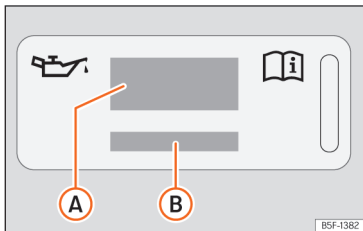

Fig. 231 In the engine compartment: engine oil label
Key to the >>> **Fig. 231**:
If the engine oil has to be topped up, use one of the oils shown on the label >>> **Fig. 231**.
- If the label showing the engine oil specifications is missing >>> Fig. 231, please contact a specialist workshop.